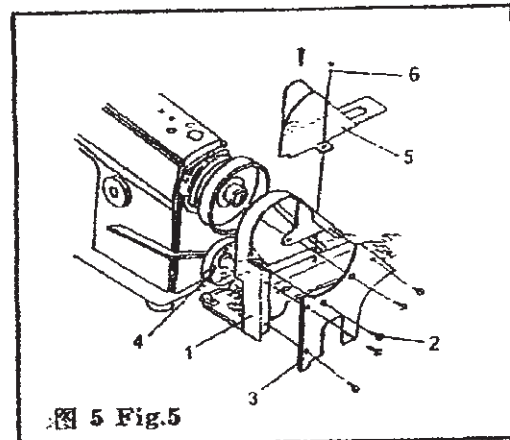

图 5 Fig.5
(5) 防护罩的安装: (图 5)
(5) Installing the belt cover: (Fig. 5)